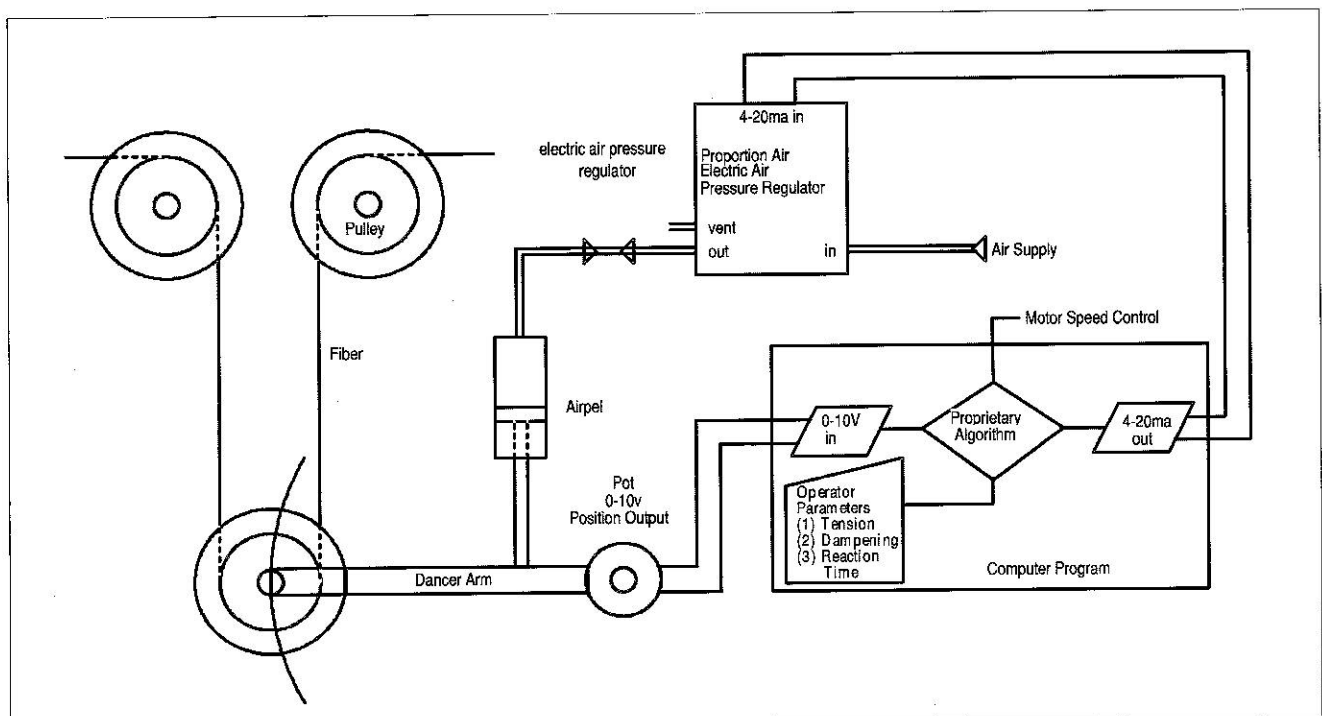

Figure 2. Biogeneral Tension Control System.
*Figure 2* shows the configuration of the Biogeneral tension control system with the Airpel cylinder replacing the spring-wound tensioner. Control of the system is similar to the spring-wound system, except that the system is now stable. Tension is controlled through a combination of motor speed control and adjustments to the cylinder air pressure.